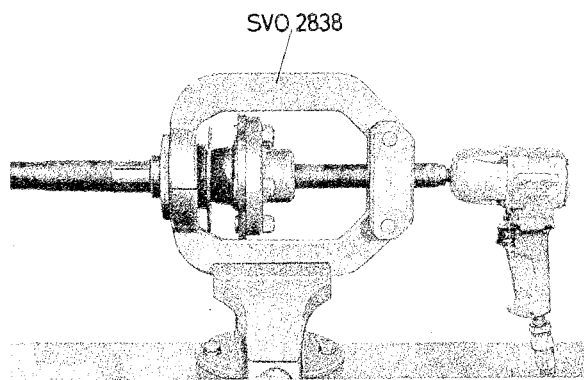

Fig. 4-132. Drive shaft bearing removal
5. Secure press tool 2838 in a vise. Secure the drive shaft to the spindle plate. Screw in the spindle so that the tool arms can be placed against the bearing, see Fig. 4-132. Screw out the spindle and press off the bearing and lock ring. Discard the lock ring. Remove the oil seal.